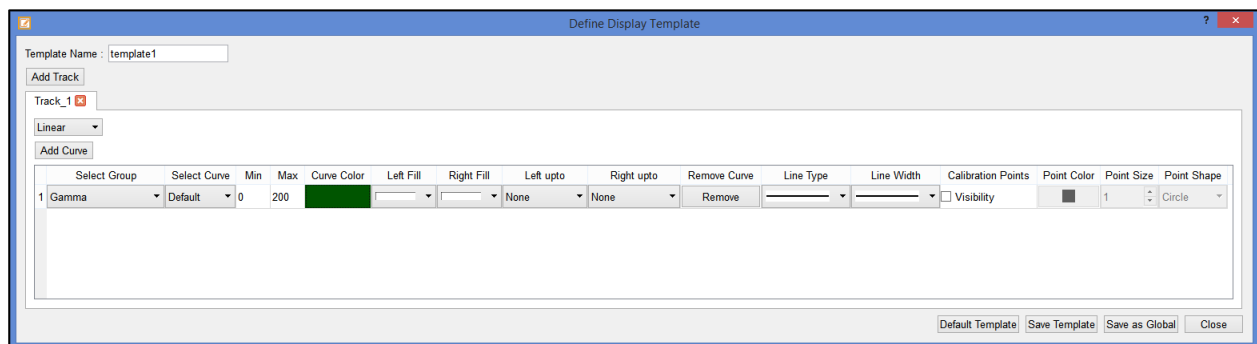

Figure 4.3 Curve with parameters.
Step 3: Now set the template name in “**Template Name**” text edit and then select the type of track i.e. Linear, Logarithmic and Depth. After that click on “**Add Curve**” button to add the curve in that track. It will add the curve in table with curve parameters as shown in figure 4.3.